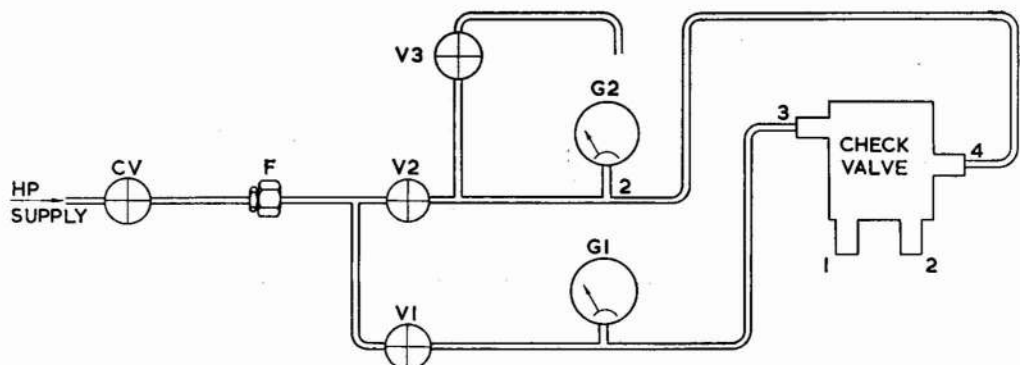

Fig. 5. Test rig, internal leakage test, check valve, 6D/2265
- (2) Reconnect to pressure and leak test rig as shown in fig. 5.
- (3) Ensure that V1 and V2 are open, and V3 is closed.
- (4) Connect 2-25 cc/min. flowmeter to check valve inlet 2.
- (5) Adjust CV until both gauges indicate 200 lb/in². Flowmeter must indicate not more than 15 cc/min.
- (6) Reconnect the flowmeter to check valve inlet 1. It must indicate not more than 15 cc/min.
- (7) Exhaust the system.